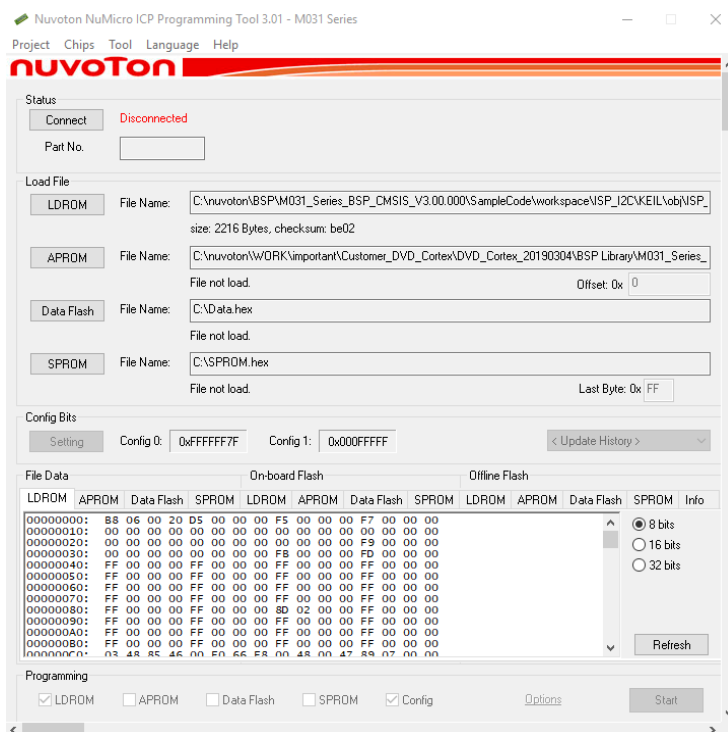

Figure 5.2-2 ICP Tool Main Window
- (3) In the ICP Tool window, the connection status is shown as “Disconnected” since the ICP tool has not been connected with the Nu-Link2-Pro, as shown in Figure 5.2-2.